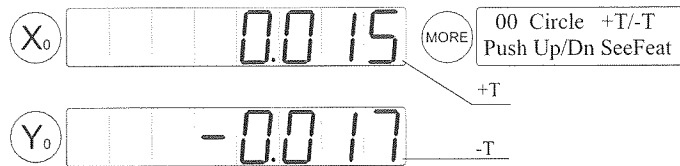

Figure 1-17
- 3) Press , and the information is displayed as in figure 1-17. The X and Y axes displayed values indicates the degree the circle being approximate to a perfect circle.